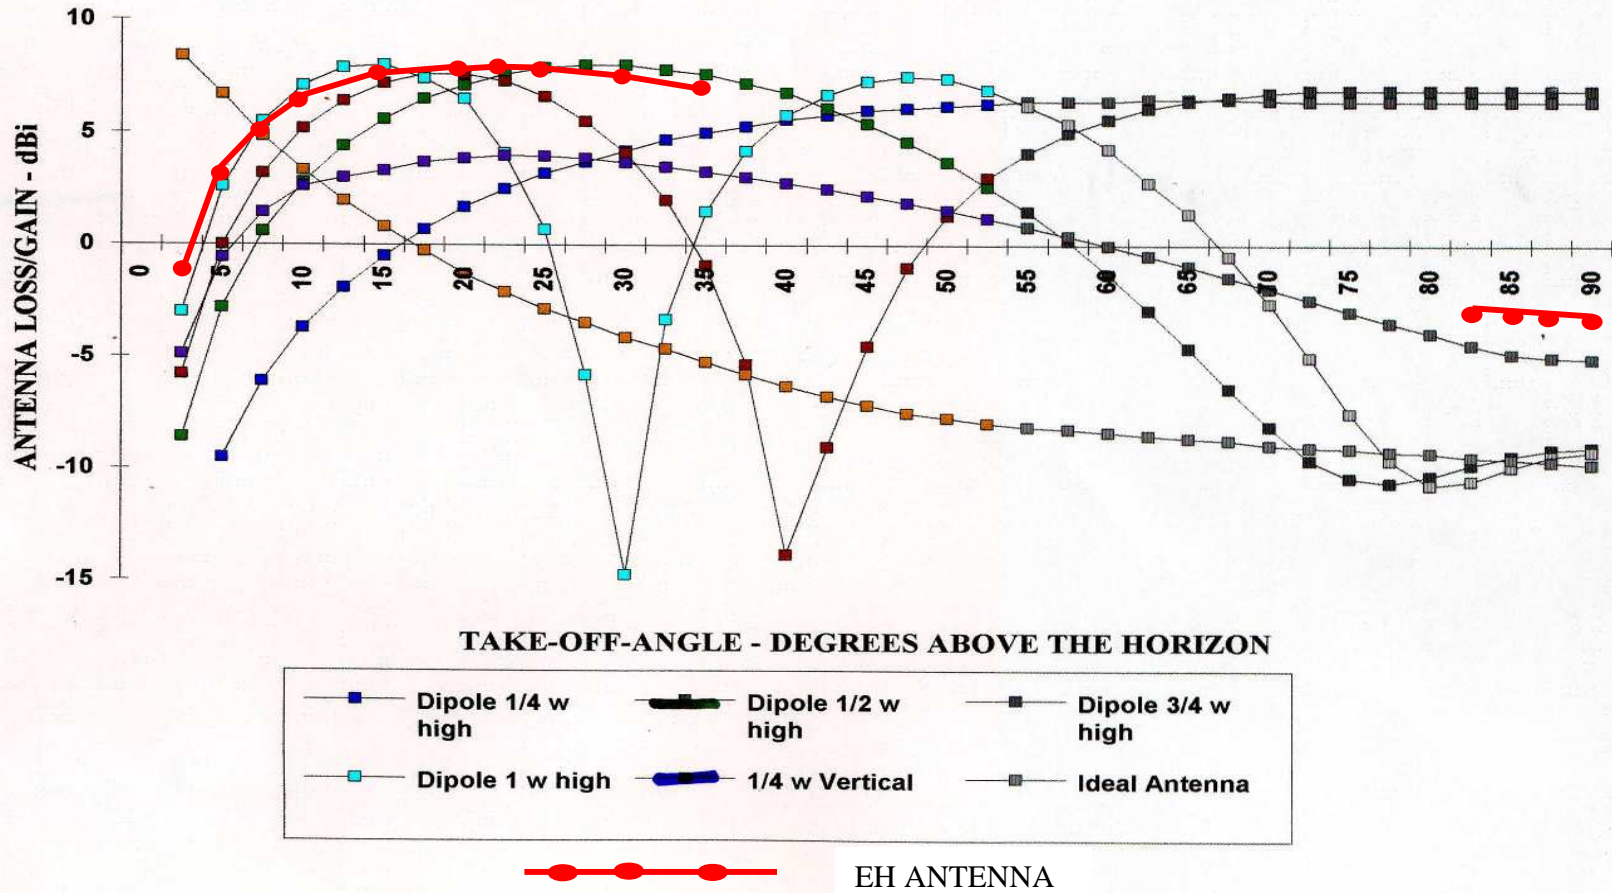

FIGURE 6 – RADIATION PATTERNS OF VARIOUS ANTENNAS
To put the radiation pattern of a EH Antenna in proper perspective, please see Figure 6 on the following page. The patterns of standard antennas were derived using a MININEC computer program. The layout may not be familiar to the reader, but it clearly shows the relevant information. Begin by looking at the pattern for a dipole $\frac{1}{4}$ wavelength high. The radiation at 90 degrees (straight up) is very good, and falls off at lower take off angles. Dipoles at $\frac{1}{2}$ wavelength high do not perform well at high angles, but give increased radiation at lower angles. As the dipole is raised higher, nulls in the pattern begin to appear. The shape of these patterns (peaks and nulls) apply to horizontal beams; their horizontal beamwidth is narrowed by a factor of the antenna gain. The pattern of a $\frac{1}{4}$ wave vertical is also presented. These are ideal patterns, not necessarily what you would expect from your backyard antenna. In particular, if there are buildings blocking the desired direction, the calculated pattern can not be realized in practice. Patterns for the horizontal dipoles are broadside to the dipole. There is a null off the end, making the dipole pattern directional in the horizontal plane. Also, the pattern assumes 120 radials surrounding the vertical.
Where does the EH Antenna fit into this picture? For a 12:1 Length/diameter ratio the EH Antenna has a gain of about -8 dB to -10 dB compared to a ½ wave dipole ¼ wavelength above ground, when it is mounted vertically. For an L/D ratio of 6, at low angles the EH Antenna is about 4 dB over a ¼ wave vertical. We have drawn relative performance curves for the two EH Antenna configurations using red circles and red lines on the plot of Figure 6. It is an excellent antenna for low angle (DX) radiation. The plot assumes a height of ¼ wavelength for the DX antenna. However, at a height of 0.1 wavelengths the gain would only be reduced about 4 dB.